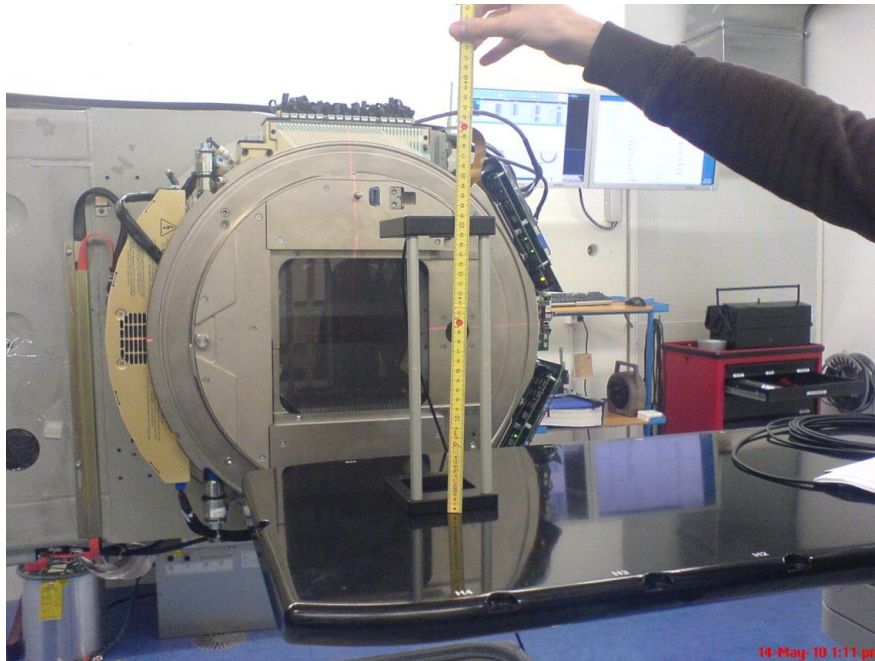

Figure 39: Air Kerma Setup with Probe at Position 15/0/0 cm
3. Position the UNFORS test fixture on top of the couch. Use the lasers or crosshairs projection to align the probe at approximately position 15/0/0 cm (see Figure 39). This position will simulate absorbed dose at patient skin level.